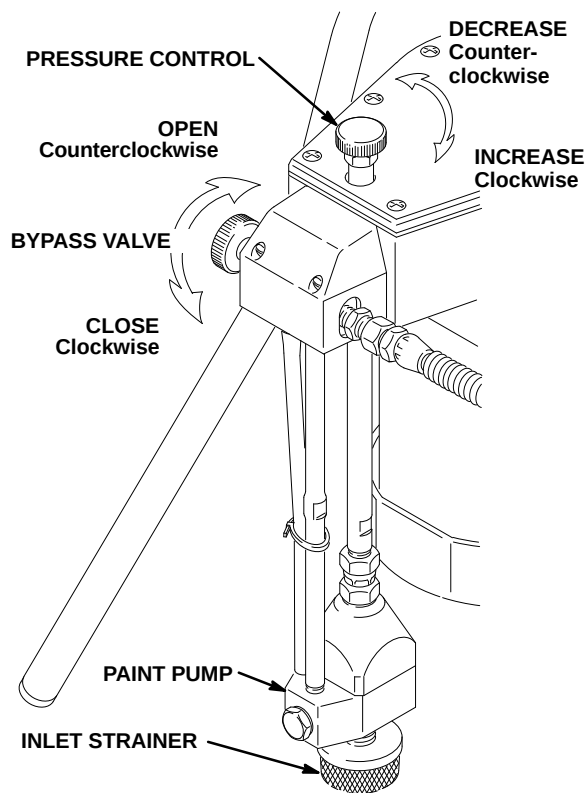

Fig 4
- 1 Open the bypass valve ONE turn **counterclockwise**. Do not place the paint pump intake in the pail yet. See Fig 4.
- 3 Turn the pressure control fully **clockwise** to increase pressure. See Fig 4.
- 4 Remove the inlet strainer, turn on the sprayer, and place your hand over the inlet valve to be sure it is drawing a vacuum. Refer to Fig 4.